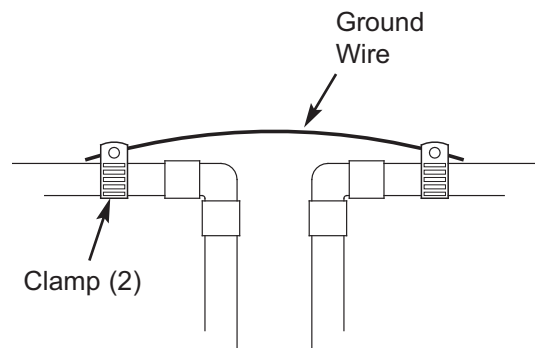

FIG. 9
1. Install a #4 copper wire across the removed section of main water pipe, securely clamping it at both ends (See Figure 9) - parts not included.